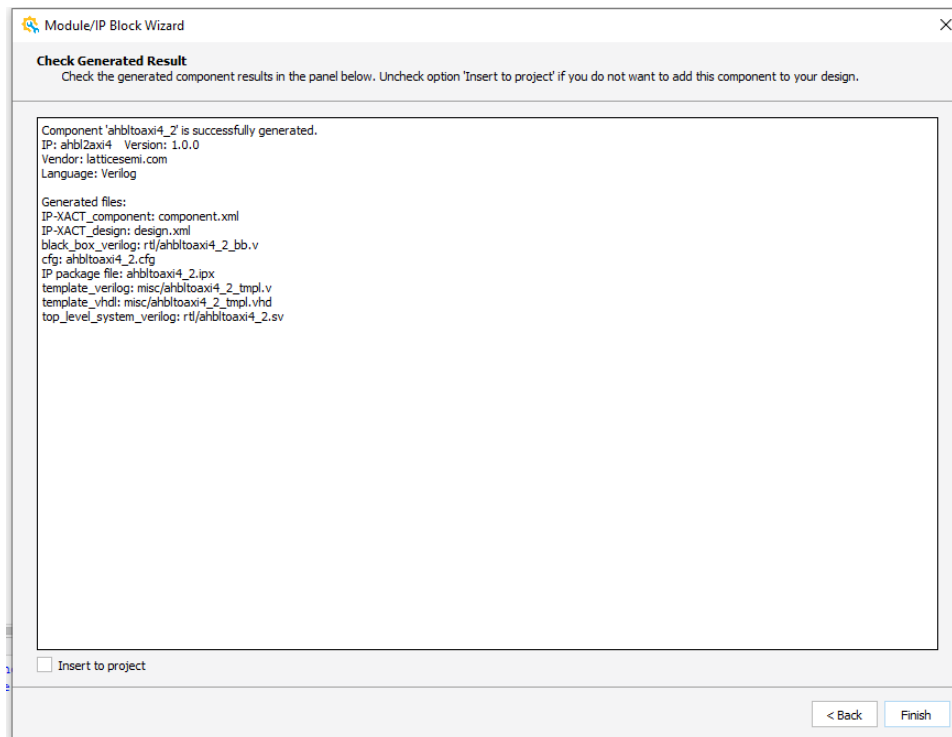

Figure 4.3 Check Generated Result
4. Click the **Generate** button. The **Check Generated Result** dialog box opens as shown in Figure 4.3. This dialog box shows the design block messages and results.